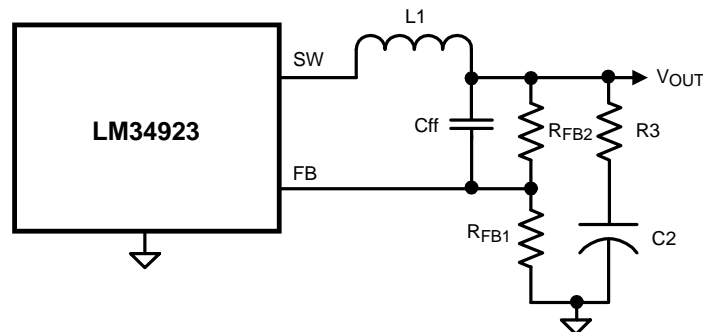

Figure 36. Reduced Ripple Configuration
**a) Reduced ripple configuration:** In Figure 36,  $C_{ff}$  is added across  $R_{FB2}$  to AC-couple the ripple at  $V_{OUT}$  directly to the FB pin. This allows the ripple at  $V_{OUT}$  to be reduced to a minimum of 25 mVp-p by reducing  $R_3$ , since the ripple at  $V_{OUT}$  is not attenuated by the feedback resistors. The minimum value for  $C_{ff}$  is determined from: